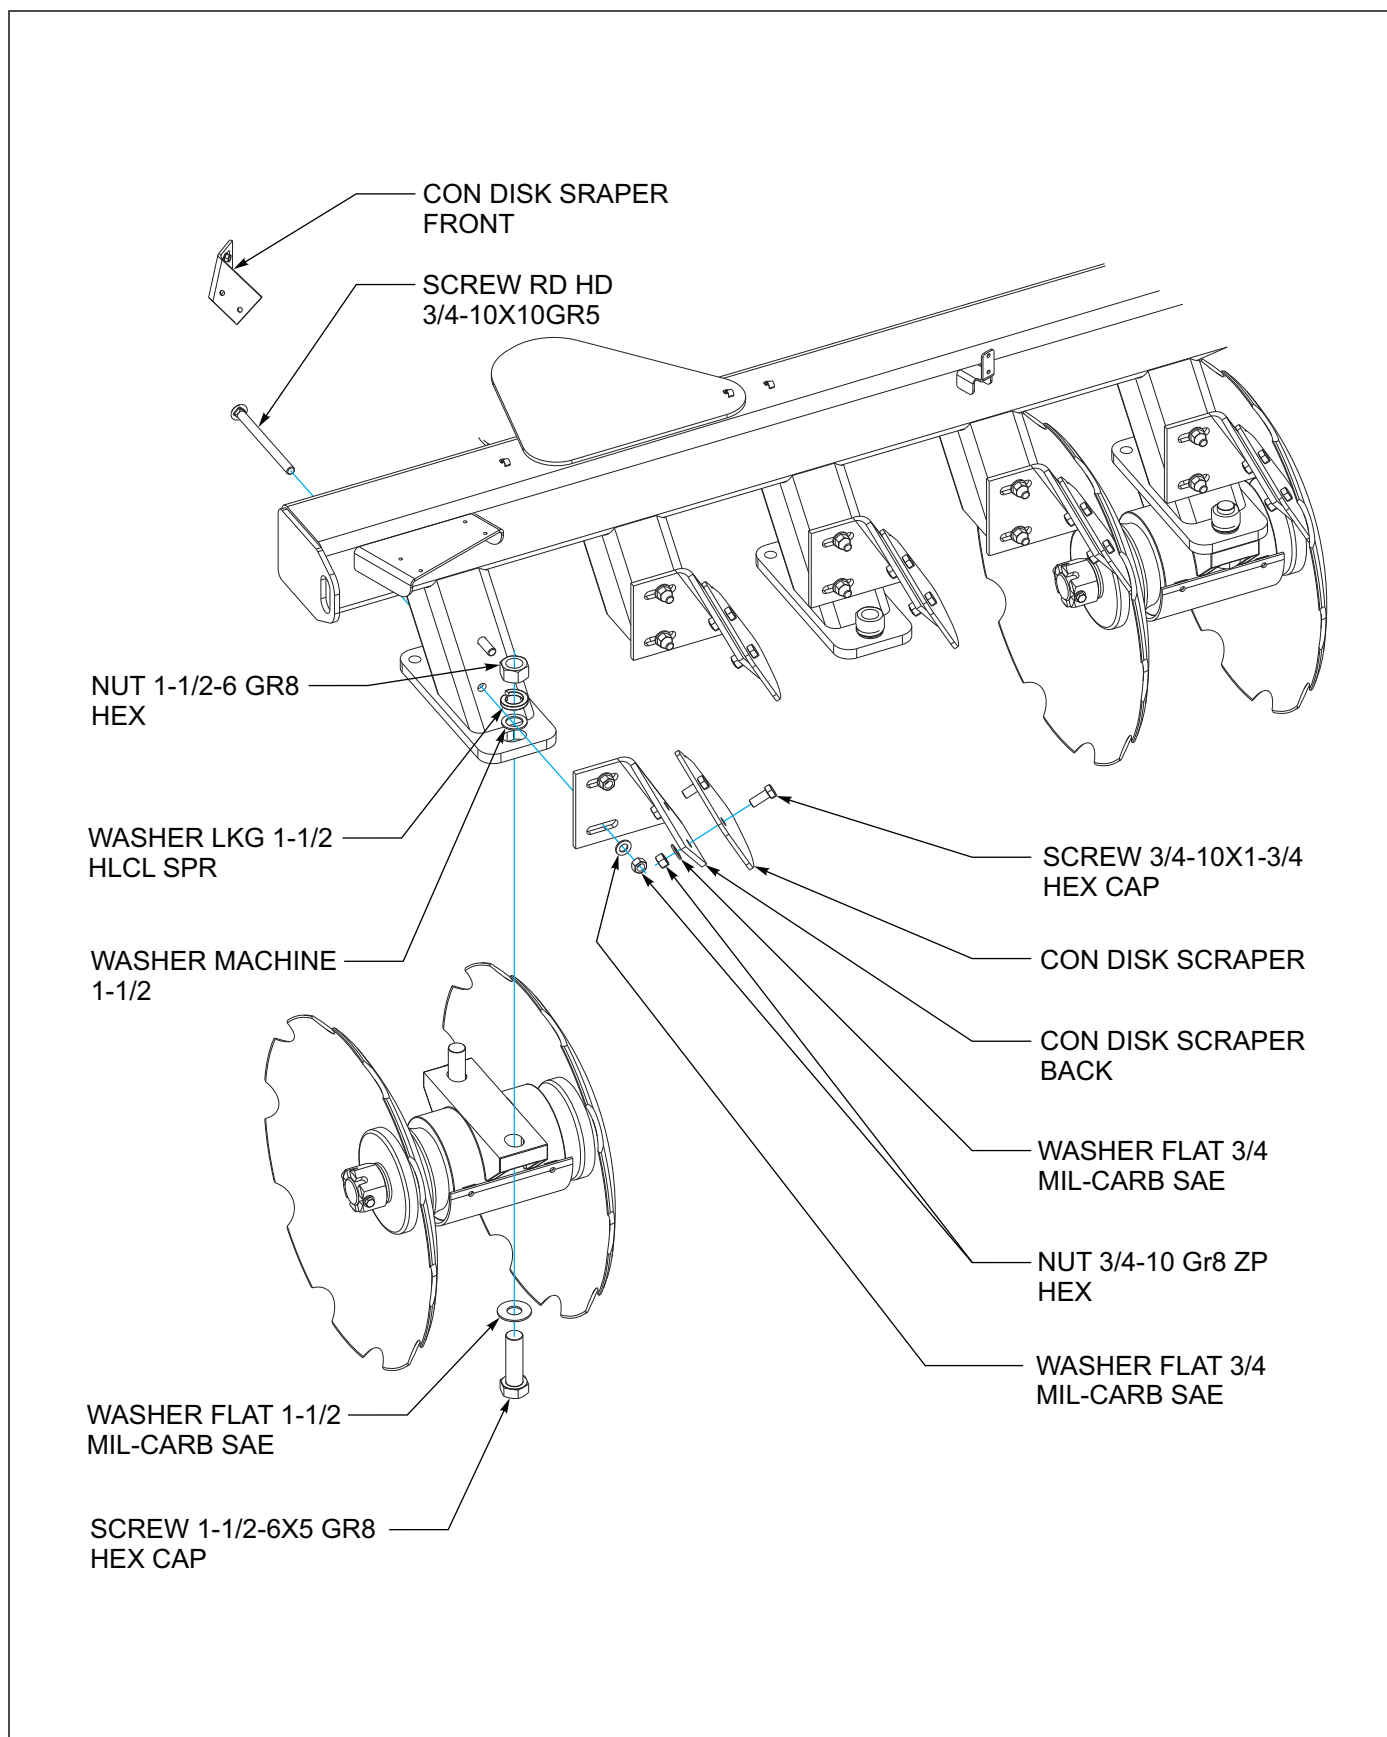

Figure 4-10: Disc Gang Mounting Hardware
3. On new machines and after removing disc gangs from frame, check and tighten all disc gang mounting hardware daily for the first 2 weeks See Figure 4-10.